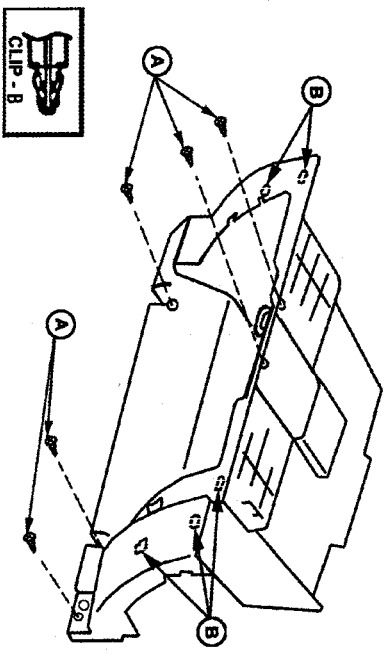

FIGURE 22
- 4.) REMOVE THE MOUNTING SCREWS (A) (5 LOCATIONS), (SEE FIGURE 22)
- 5.) PULL THE GLOVE COMPARTMENT OUTWARD AND DETACH CLIPS (B) (5 LOCATIONS). (SEE FIGURE 22)